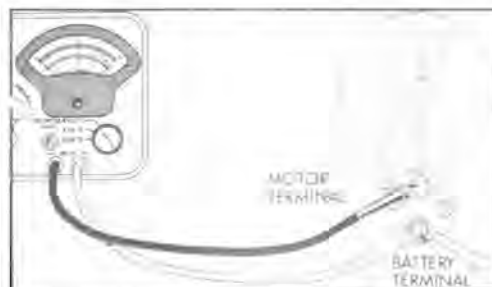

Figure 68-25--Solenoid Switch Contact Test Connections
6. With voltmeter switch turned to any scale above 12 volts, connect voltmeter negative (-) lead to the motor terminal of solenoid switch, and connect positive (+) lead to battery terminal of switch. See Figure 68-25.